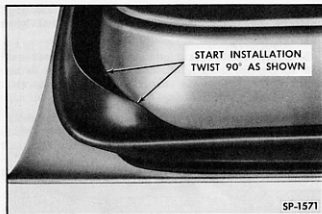

Fig. 38—Weatherseal at Corner of Door
6. At the lower front corner of the front door, the weatherseal must be twisted 90 degrees (Fig. 38) so the wide cementing surface of the seal will be flat against the door inner panel.
2. At the upper front corner of the door, twist the seal 90 degrees the same as done on the lower front corner on front doors (shown in Fig. 38). Then route the seal down the center of the door hinge pillar as shown in Fig. 41. Make certain that the seal is routed between the door check arm and the door panel. Also, make certain it misses the door jamb switch, on bodies so equipped.
3. At the lower front corner of the rear door, twist the seal 90 degrees (Fig. 38) so the seal may be cemented to both the bottom of the door and the outer panel flange. Route the seal along the bottom of the door and up along the lock pillar to meet the starting end of the seal. Make certain that both ends of the seal butt evenly and are cemented together.